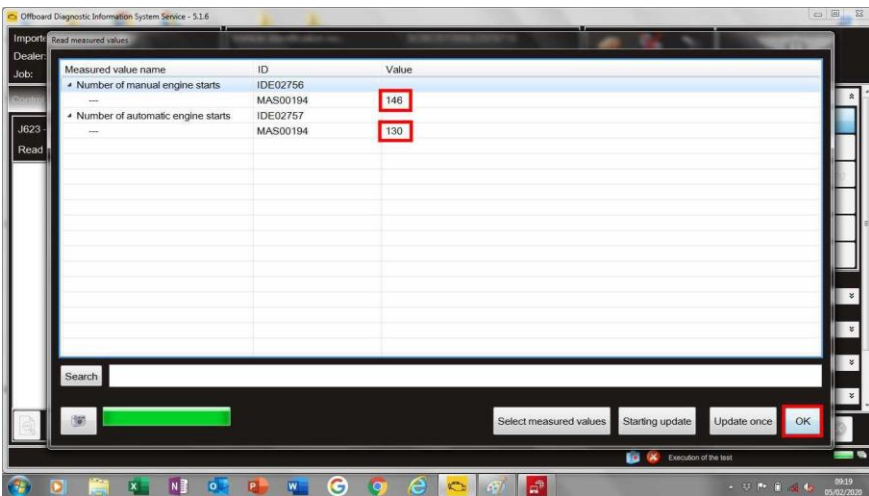

Figure 5
- Note the values of “IDE02756” and “IDE02757” and add this information to the DISS query, select “OK” – Figure 5.